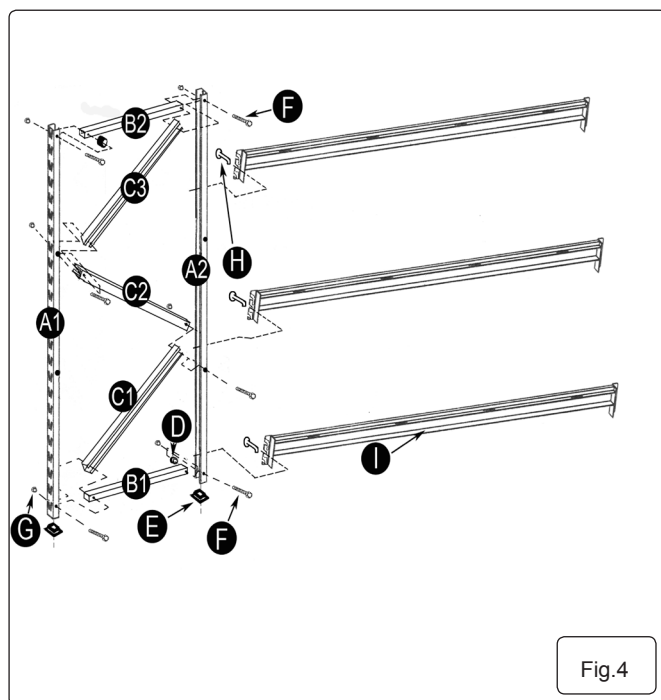

Fig.4
1.2 Assembling the end frames. Refer to Fig.4.